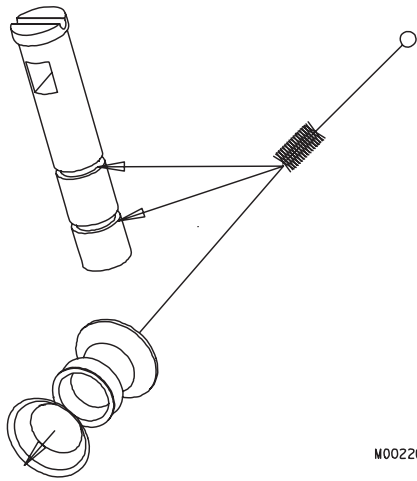

Figure 6-7 Clean shaft seal and plunger
c. The shaft seal and plunger O-ring grooves (figure 6-7).